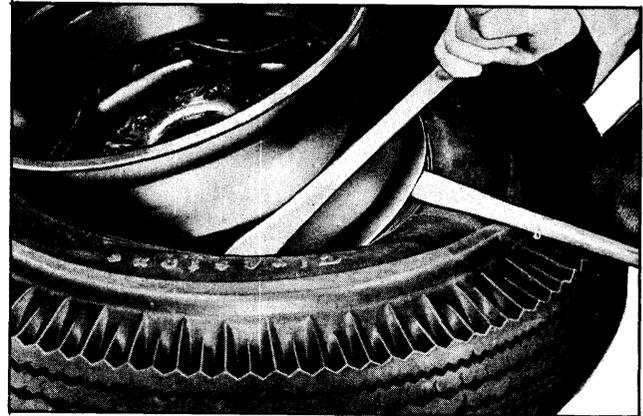

Fig. 4-12 Removing Tire
- (b) Turn the tire over, and again use tire irons, one between the rim flange and bead to pry the rim upward, the other to pry outward between the bead seat and bead as shown in Fig. 4-12.